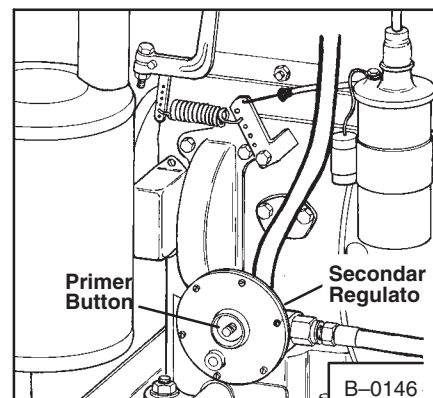

Fig. 7 Secondary Regulator & Primer Butt
The secondary regulator (Fig. 7) withholds gas until a vacuum, created by turning the engine over at a continuous rate, opens the regulator valve allowing fuel to enter the carburetor.
2. Depress the primer button on the secondary regulator for an instant so that enough fuel will enter the carburetor for starting (Fig. 7).